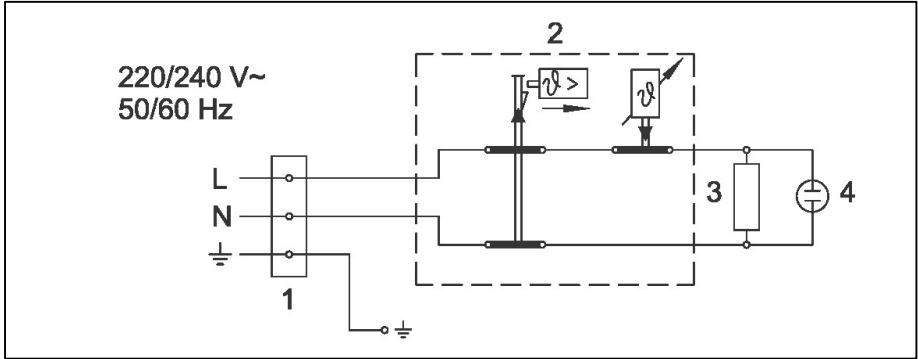

Fig. 7 1 Phase (220V-240V)
3. Attach wiring to the terminal block per Figures 7 and 8 depending on the phase of your unit.